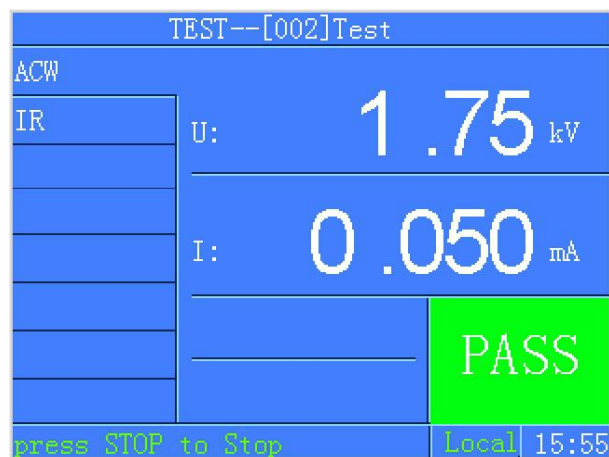

Figure 4-6-3 All test items pass
2) Test Pass, as shown in Figure 4-6-3.